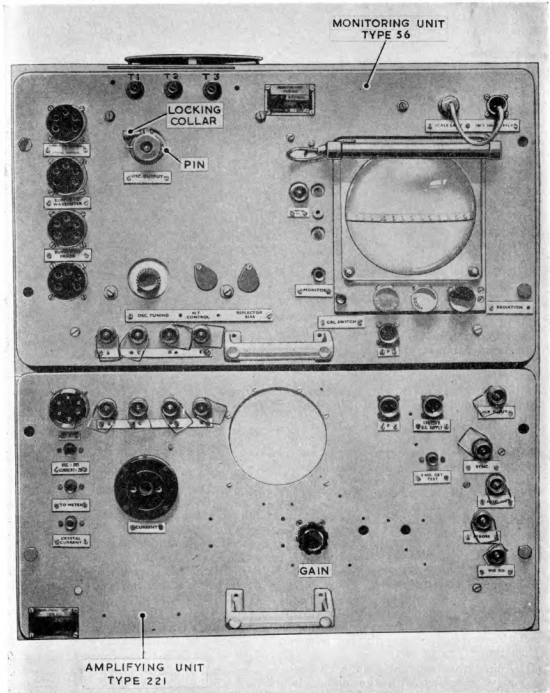
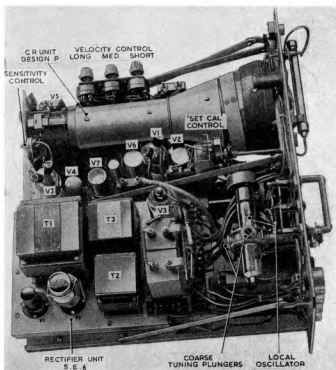

Fig. 10. Monitor Type 53 : front panel
Fig. 11. Monitoring unit Type 56 : interior
**22.** During the following operations, a close watch must be kept on the mixer crystal current. It has been found that the mixer works most efficiently when the current through the crystal is in the order of 500 to 600 micro-amperes. A 500 micro-ampere meter is plugged into a socket adjacent to a jack socket marked TO METER on amplifying unit Type 221 (*fig. 10*). A wander lead with a jack plug on either end is plugged into the TO METER socket and is used to connect it to the CRYSTAL TEST jack socket which is in series with the crystal mixer on the side of receiving unit Type 177. The mixer crystal current is then indicated on the meter.
a plug from which the output of the local oscillator is taken (*fig. 10*). The plug may be rotated and is locked by means of a collar and screw. A pin indicates the position of the pick-up loop which projects into the klystron cavity. Pick-up is a minimum when the pin is vertical.
**26.** The receiver should already be switched on. Adjust the BRILLIANCE and FOCUS controls under the CRT window (*fig. 10*) until a well focused trace is obtained. Switch to short range by turning the extreme right-hand knob under the CRT window so that the yellow spot is uppermost.
**28.** The transmitter wavelength should have been noted previously (*para. 15*). If it was found to be outside the range of 9·9 to 10·1 cm. it will be necessary to alter the coarse tuning plungers of the local oscillator (*fig. 11*). To do this, the upper and lower chassis of monitor Type 53 should be withdrawn slightly by removing the eight securing bolts. If the transmitter wavelength is greater than 10·1 cm., unscrew both plungers two turns ; if it is less than 9·9 cm. screw them in two turns. If it is found impossible to make two turns when the wavelength is short, unscrew the plungers three turns, thus tuning the local oscillator to a longer wavelength than that of the transmitter.
29. Turn the gain control (fig. 10) fully clockwise, then back by a quarter turn. Rotate the aerial until a permanent echo is observed on the monitor trace. In the case of the height finder (R.V.461C), it may be necessary to tilt the aerial by 3 to 4 deg. If no signals appear, the receiving chain will probably be well off tune. Start therefore by observing the ground ray at the start of the trace. Make this as wide as possible by turning the short velocity pre-set knob fully clockwise (fig. 11). Set the local oscillator tuning knob to its mid position and alter one of the local oscillator coarse tuning plungers. The shape of the ground ray will be seen to alter as the plunger is turned, and small signals within the ground ray will pass through their maxima. Tune the second plunger in a similar manner for maximum signal. Next turn the oscillator tuning knob, likewise for maximum signal. Do not forget to adjust the crystal current each time (para. 25).
- (1) Turn the range switch to long (i.e., so that the red spot is uppermost).
- (2) Turn the pre-set long velocity control (fig. 11), which is accessible through a hole in the side of the monitoring unit, fully counter-clockwise.
- (3) Withdraw the chassis as far as possible. The lead to the soft rhumbatron (top left) and the oscillator output lead may be removed to do this. Turn the SET CAL control (fig. 11) until 49 pips appear on the trace. It will be necessary to bring the trace towards the centre of the screen by means of the horizontal shift control in order to count the pips.
- (4) Switch to short range (yellow spot uppermost). Verify that the tumbler switch adjacent to the long velocity pre-set control is up.
- (5) Adjust horizontal shift so that the first pip coincides with zero on the top scale. Adjust short velocity pre-set so that the 7th pip coincides with 6 on the upper scale, and the 13th pip with 12 on the upper scale.
- (7) Adjust medium velocity pre-set control only, so that
- (8) Switch to long range (red spot uppermost).
- (9) Adjust the long velocity pre-set control so that :—
**34.** Perfect calibration is extremely difficult to obtain on the long range, but some improvement may result from slight adjustment of the SENSITIVITY control which is affixed to the CRT rear supporting bracket (fig. 11). If this control is moved, the calibration of all three ranges must be repeated. The sensitivity control is normally set at 90 per cent. of its clockwise travel, which gives almost maximum scan amplitude. After adjustment, the SENSITIVITY and SET CAL. controls should be
**44.** Turn the pre-set REFLECTOR HT control (*fig. 10*) for maximum crystal current. Turn the pre-set REFLECTOR BIAS control (*fig. 10*) gradually clockwise and note the point at which there is a sudden drop in crystal current. Turn back fully counter-clockwise, and then turn gradually clockwise so that the crystal current becomes a value slightly less than the figure at which the sudden drop occurred. Adjust the magnetron capstan (*para. 5 (2)*) for maximum signal.